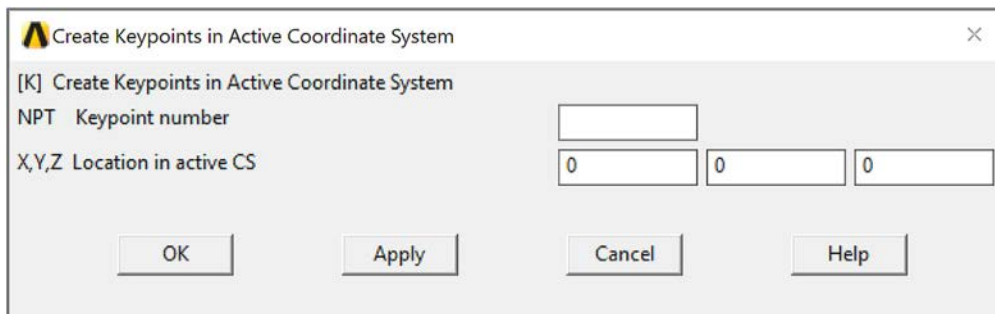

Figure 3-1-2 Keypoint Coordinate Input Dialog Box.
- Leave the “NPT Keypoint number” box empty to automatically assign KP numbers (Figure 3-1-2)